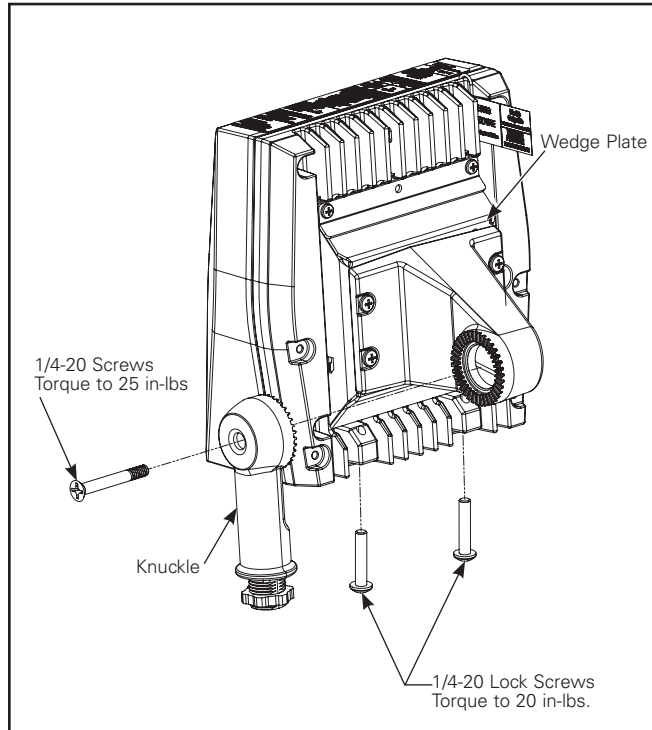

Figure 9. Axcnt Small Pole Mount
3. Attach the knuckle mount assembly to the fixture and tighten (2) 1/4 -20 Phillips head screws to 20 in-lbs (Figure 9). Ensure that the luminaire supply leads are not pinched between the wedge plate and housing.